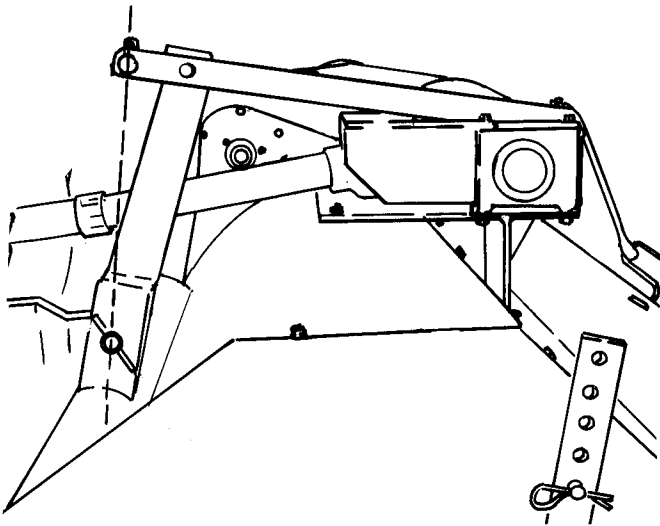

Fig. 3 — Level Tiller
1. Before attaching Tiller to tractor, position Tiller on level area and "BLOCK" up front of Tiller so that "A" frame is vertical as viewed from side, Figure 3.